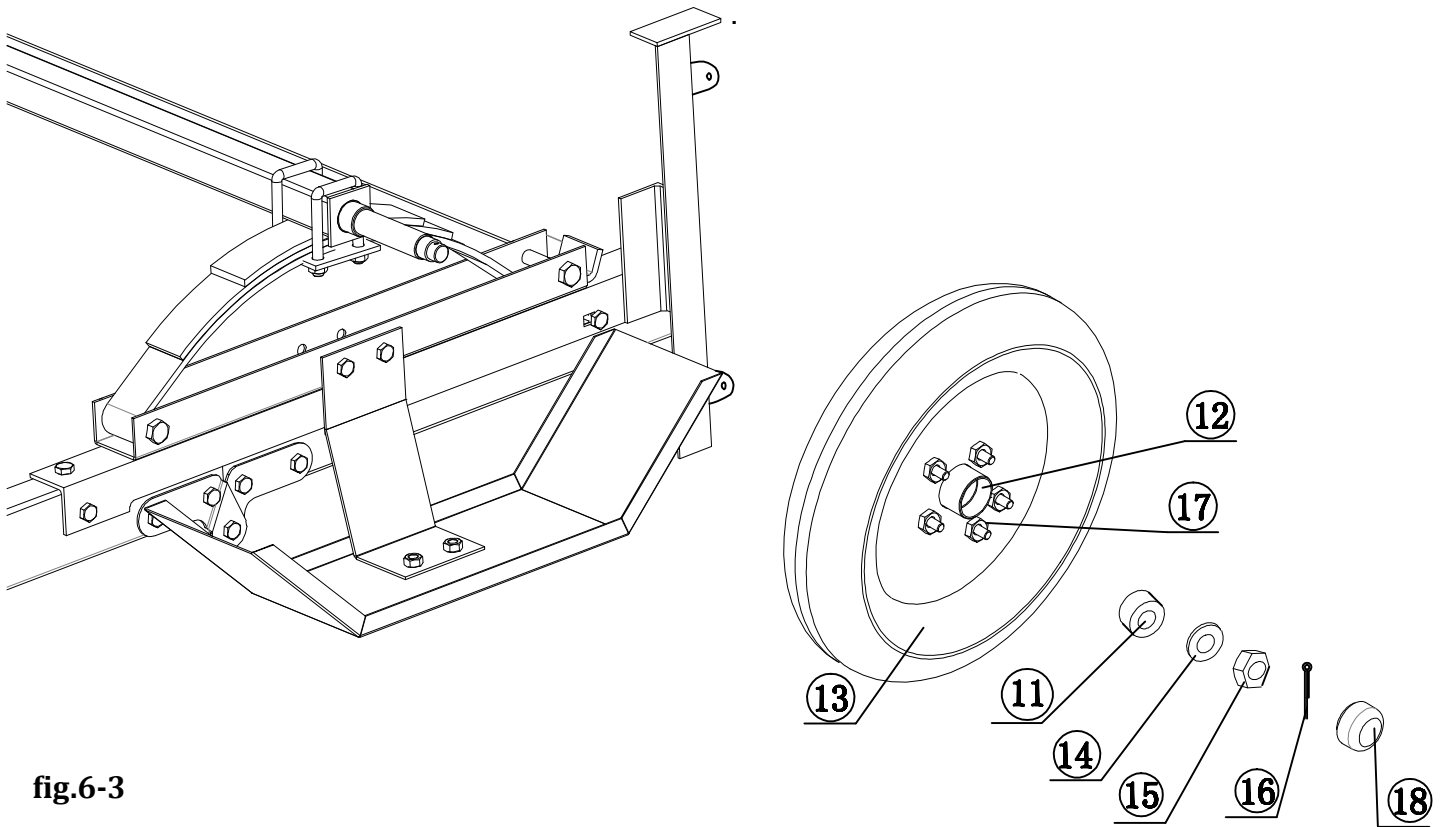

fig.6-3
5. Carefully slide tire/hub assembly onto axle with lug nuts facing outward. See fig. 6-3
6. Install outer bearing (fig.6-3, 11) with the taper facing inward toward the hub.
7. Install the washer and castle nut (fig.6-3, 14 & 15). Tighten castle nut while turning the tire/hub. Tighten castle nut until there is resistance while turning the tire/hub.